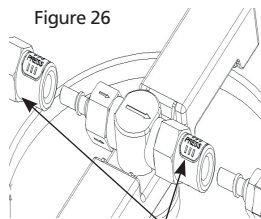

Figure 26
3. Take out the air intake connector and the dispensing connector, please press the white button first when taking it out; (Figure 26)